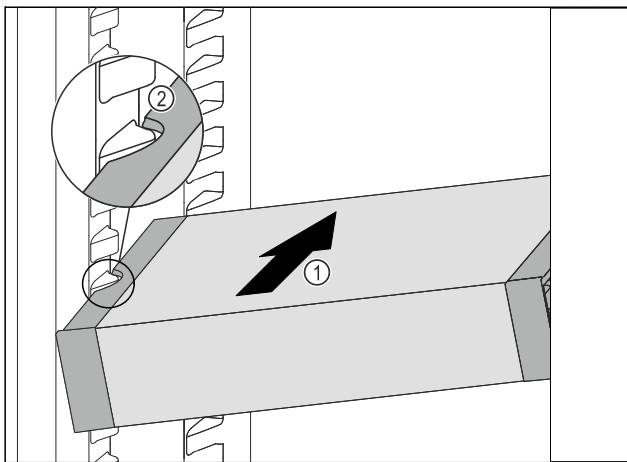

Fig. 90
- ▶ Insert the VarioSafe into the refrigerator compartment at an angle Fig. 90 (1) until the recesses in the side Fig. 90 (2) of the VarioSafe are at the level of the support rib in the refrigerator compartment.